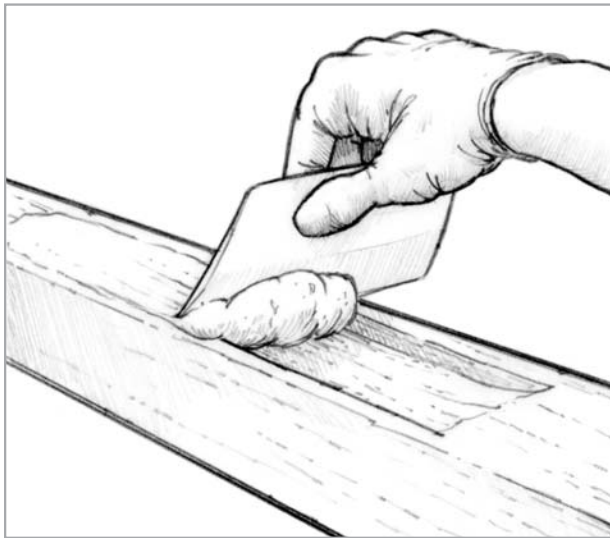

Figure 3-2 Trowel thickened epoxy into smaller voids.
3. Fill the cavity with epoxy thickened with a high-density (406,404 or 403) filler to a peanut butter consistency. Trowel the mixture into the void with a plastic spreader or mixing stick (*Figure 3-2*). Smooth the mixture flush with the surface and remove any excess before the mixture begins to cure.